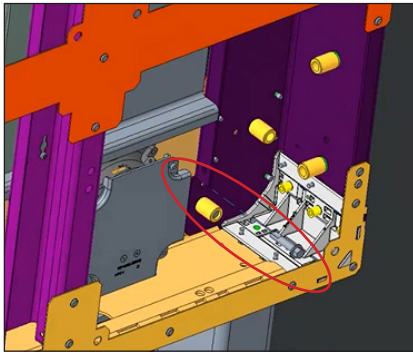

Figure 14: Secure Bottom Clip Location from Front
- For front installations, drill a 7/32" pilot hole, then install a self-drilling screw from the front of the cabinet through the rear in the location shown in **Figure 14**. Refer to the **Structural Self-Drilling Screws Installation Guide (DD5549390)**.